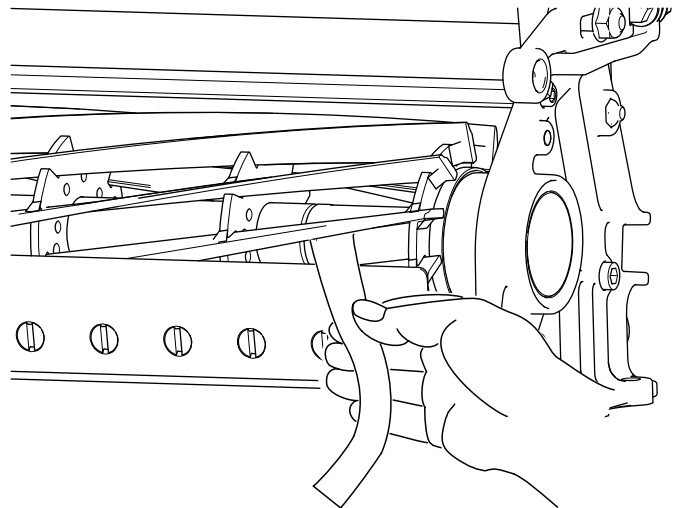

Figure 8
- B. Insert a long strip of cutting performance paper (Toro Part No. 125-5610) between the reel and bedknife, perpendicular to the bedknife (Figure 8), then **slowly** rotate the reel forward; it should cut the paper; if not, repeat steps A and B until it does.
bedknife, perpendicular to the bedknife (Figure 8), then **slowly** rotate the reel forward; it should cut the paper; if not, turn each bedbar adjusting screw clockwise 1 clicks and repeat this step until it cuts the paper.